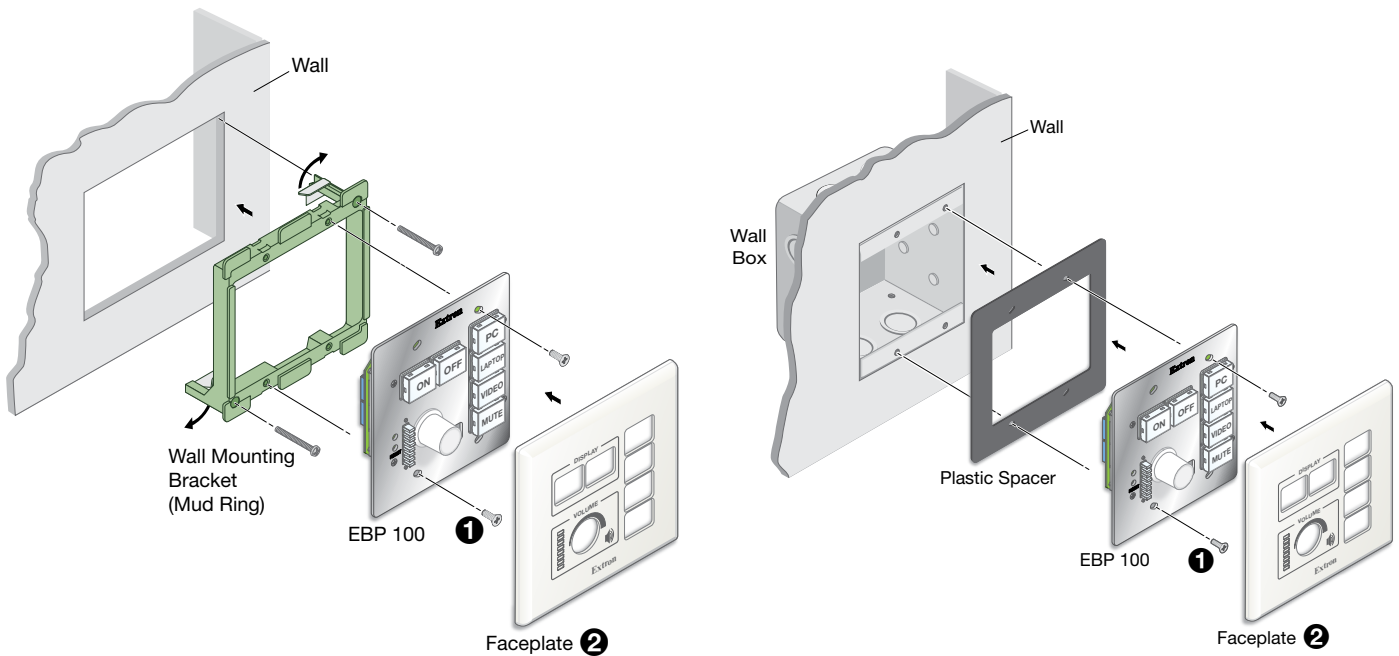

Figure 9. Mounting the EBP 100 with a Wall Mounting Bracket (left) or a Wall Box (right)
2. Secure the EBP to the junction box, wall or surface mounting box, or mud ring, using the included screws (see figure 9, **1**).